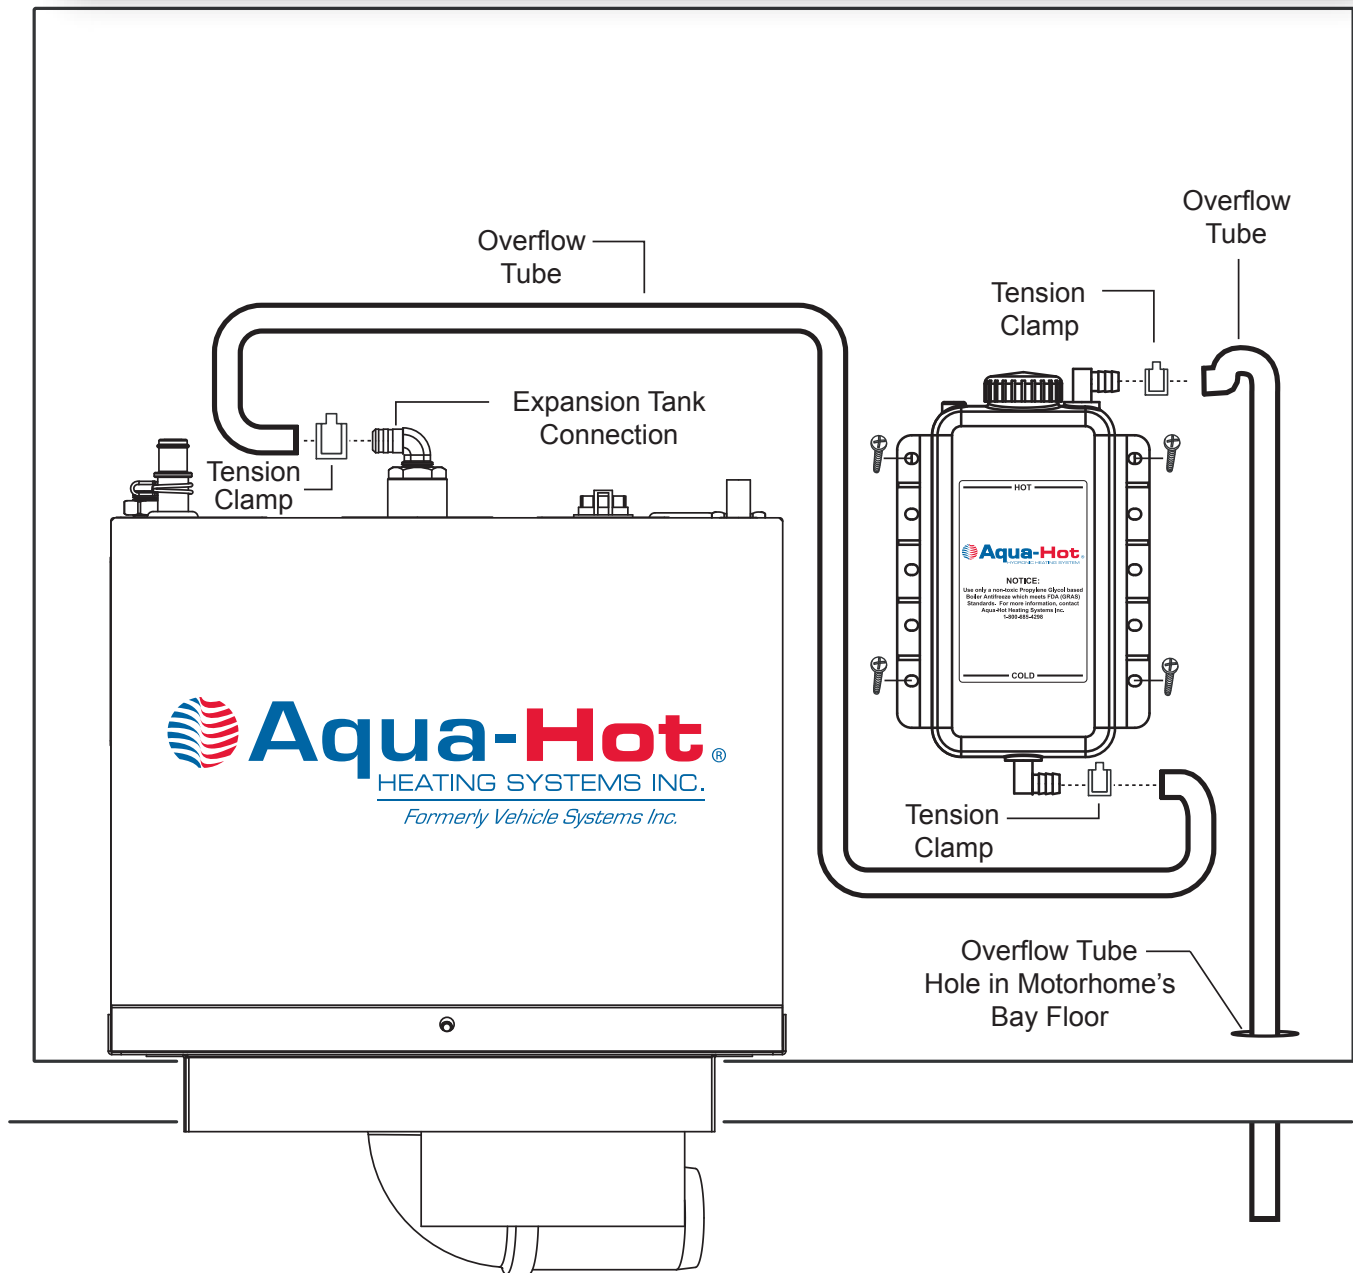

Figure 8
NOTE: The top of the Expansion Tank must always be mounted at least 4 inches higher than the Aqua-Hot's cabinet; reference Figure 8.
1. Mount the Expansion Tank as illustrated in Figure 8.
2. Connect and clamp the Overflow Tubing from the Expansion Tank to the Aqua-Hot's Expansion Tank Connection; reference Figure 8.
3. Drill a hole in the Bay floor and connect (secure with a clamp) a long enough piece of overflow Tubing so that it can be connected to the top of the Expansion Tank and extend through the Bay floor; reference Figure 8.